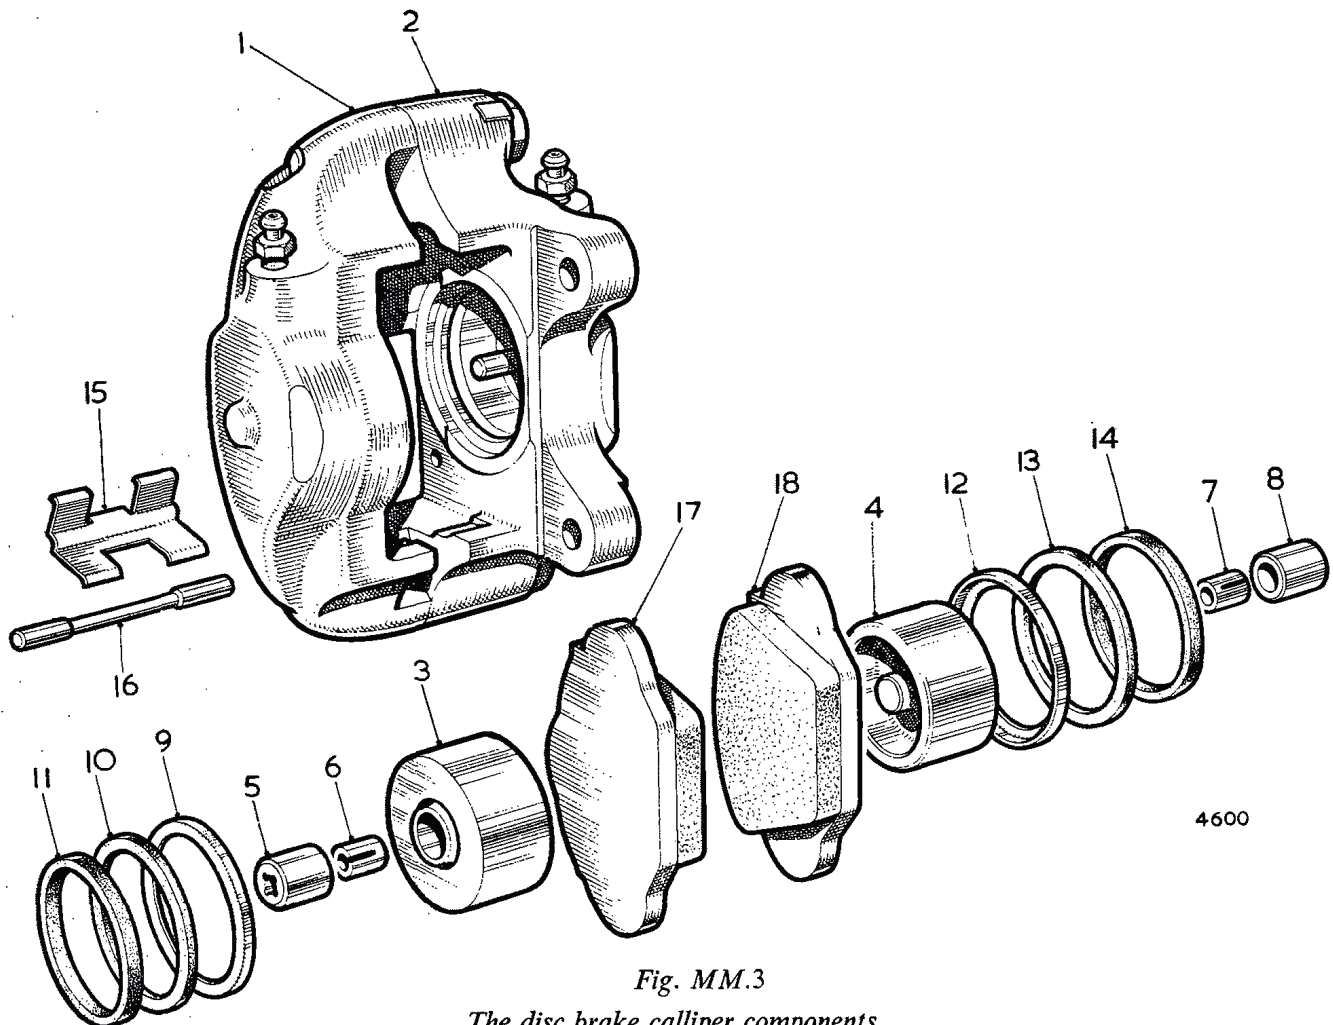

Fig. MM.3
A modified disc brake calliper dust seal and retainer (Fig. MM.3, items 9, 10, 12, 13) was introduced at Chassis No. 103261 (disc wheels) and Chassis No. 103834 (wire wheels).